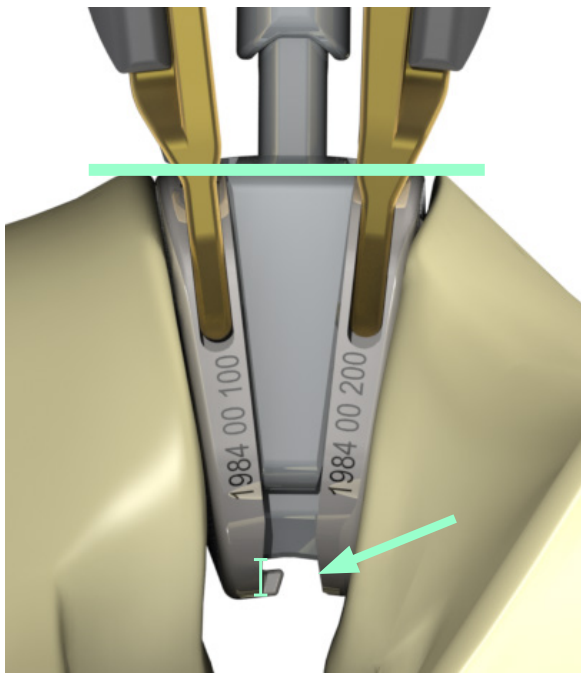

Fig. 25
- When the core trial is seated in between the endplates, it will be aligned flush with the anterior face of each vertebral endplate (Fig. 25). Imaging should be used to confirm core trial position. In a lateral x-ray, a small gap should be visible at the posterior of the configuration, as indicated in Fig. 25.